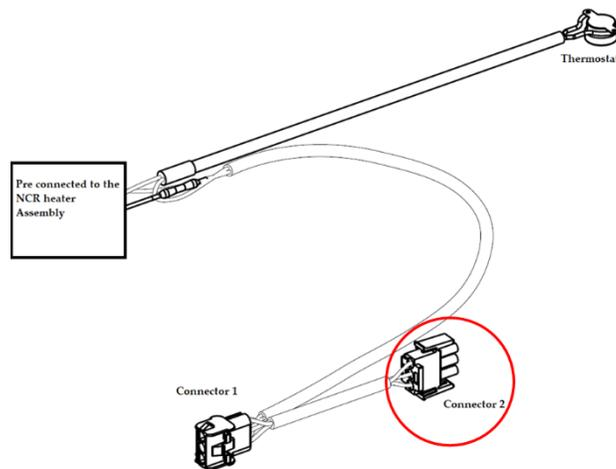
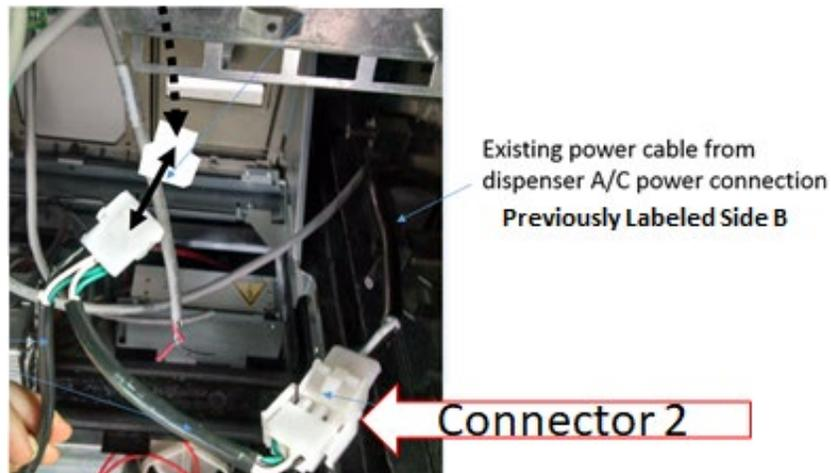

Figure 82
Figure 83
33) Affix Connector 2 (identified in Figure 82) to the existing dispenser A/C power cable (previously marked as SIDE B in step 18)) as shown in Figure 83.